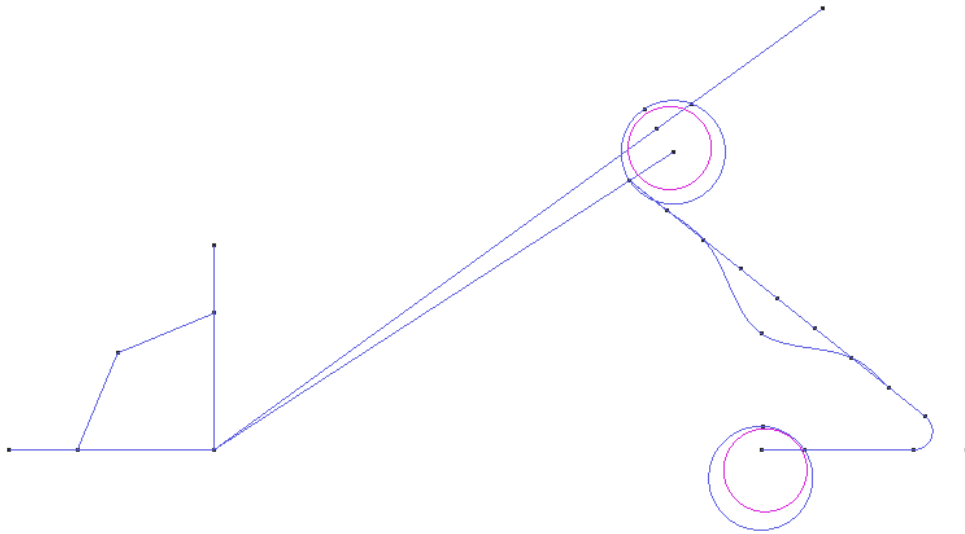

Figure 40. Optimizing the design
- 11 . Before selecting the last point, choose **Last Point** in the **Contextual** menu. Then finish the NURBS line pressing **ESC**. The result is shown in Figure 40.